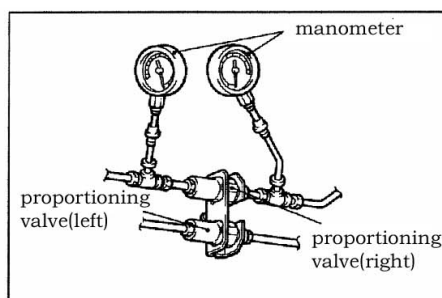

Fig. 16-11
- (1) connect two pressure gauges to the outputport of the master culinder and output port of the proportioning valve.(see Fig.16-11)。